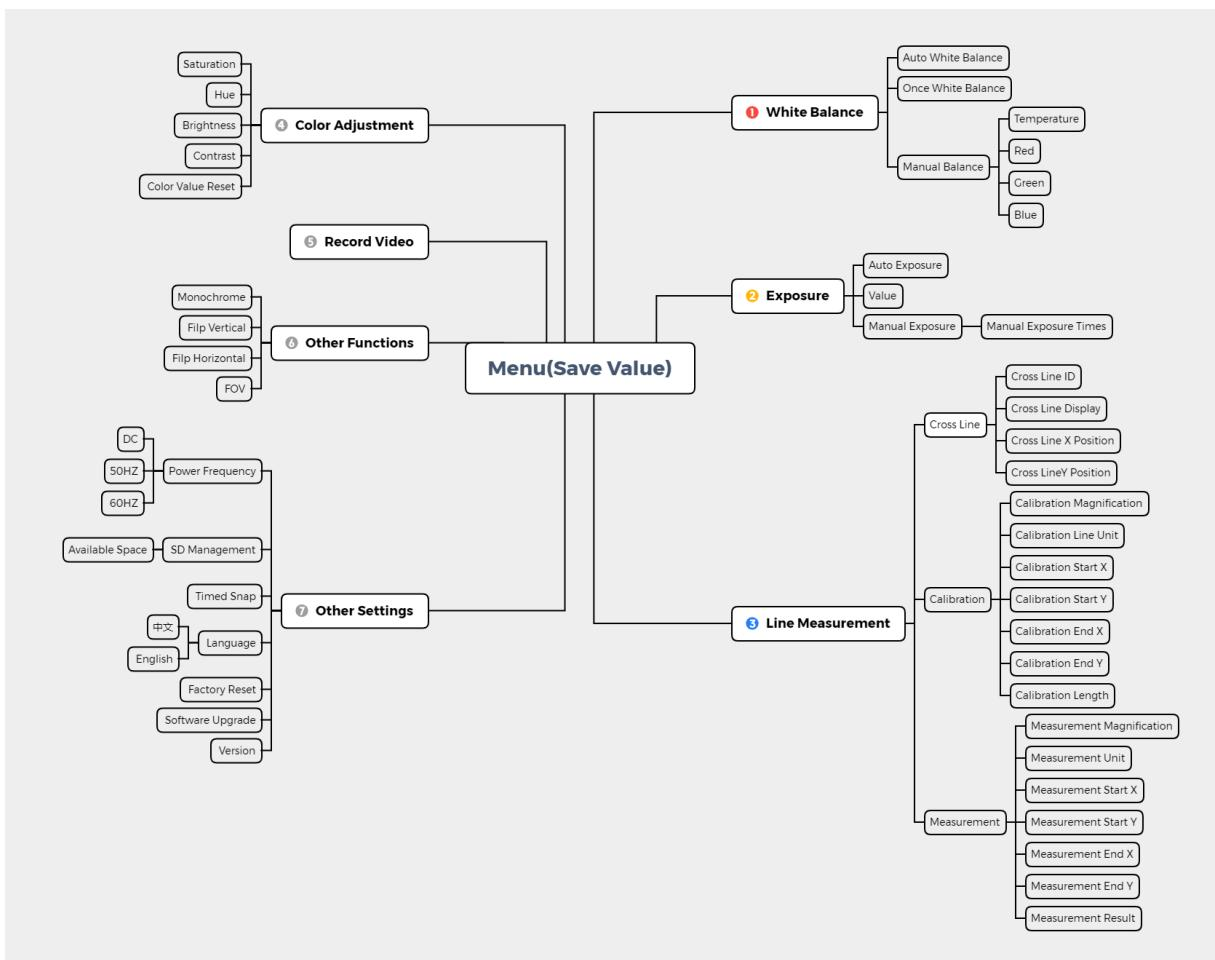

Fig. 21
4. The specific functions of this menu are shown in Fig. 21.